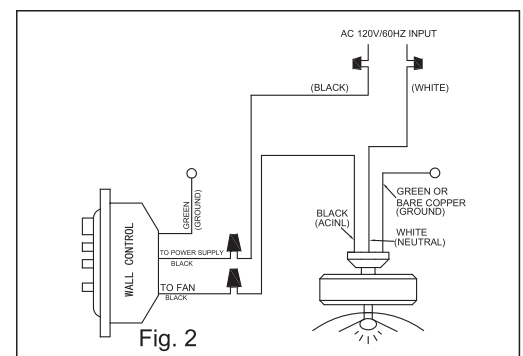

Fig. 2
**Step 2.** Make the electrical connections as shown in Fig.2. If your outlet box has a ground wire (Green or Bare Copper) connect the Wall Transmitter’s ground wire to it. Otherwise connect the Wall Transmitter’s wire directly to one of the screws from the outlet box . Secure all wire connections with the plastic wire nuts provided.